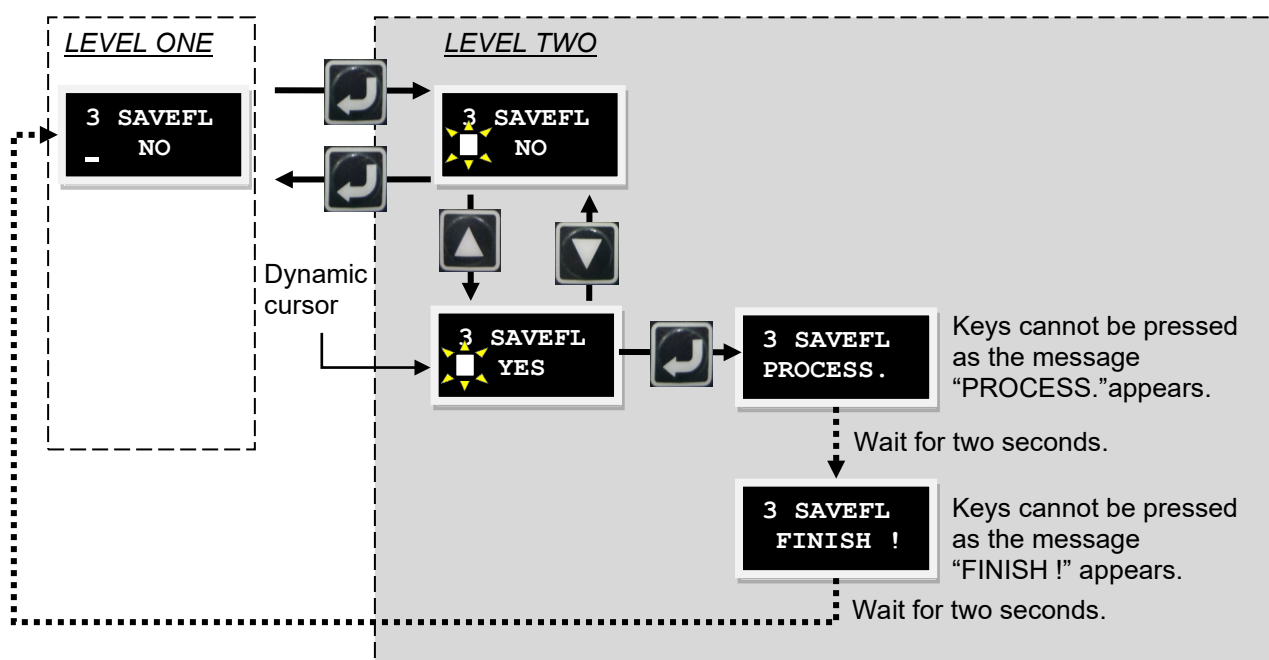

Figure7.4.1.1
- Step 3: When motor is disabled, a message "PROCESS." appears when **Enter** key is pressed. This means parameters are being saved to Flash. A message "FINISH !" appears as the process completes, please refer to figure 7.4.1.1. If **Enter** key is pressed as motor is enabled, the motor will be disabled.